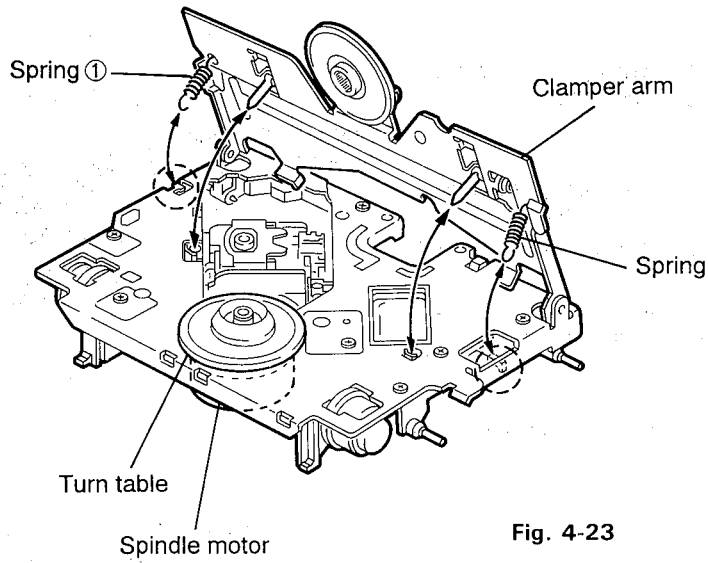

Fig. 4-23
1. After turning back the CD mechanism to initial position, remove the two springs (k) and (i) on both the right and left sides of the clamber arm (See Figs. 4-23 and 4-24).